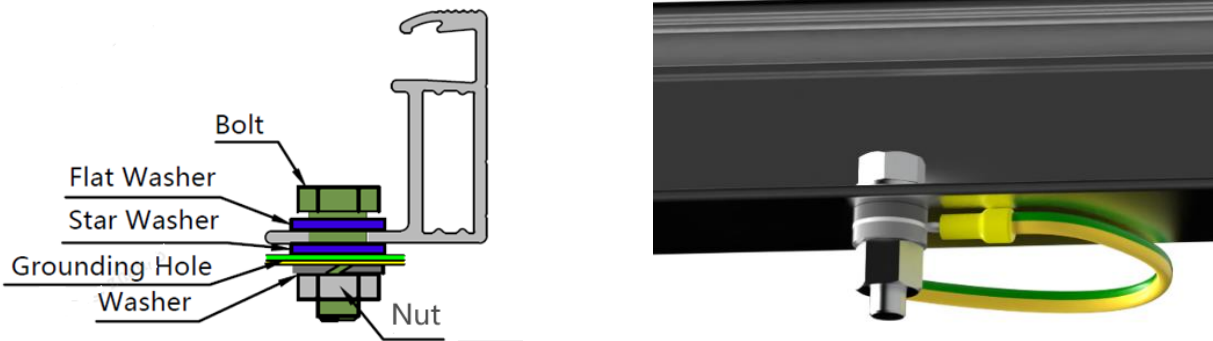

Fig. 12 Grounding of PV modules
- i) JinkoSolar recommends two types of grounding: bolted grounding, shown in Figure 12, and clamp grounding. The bolts should be tightened when grounding is installed and no damage should be done to the module frame or the grounding wire;